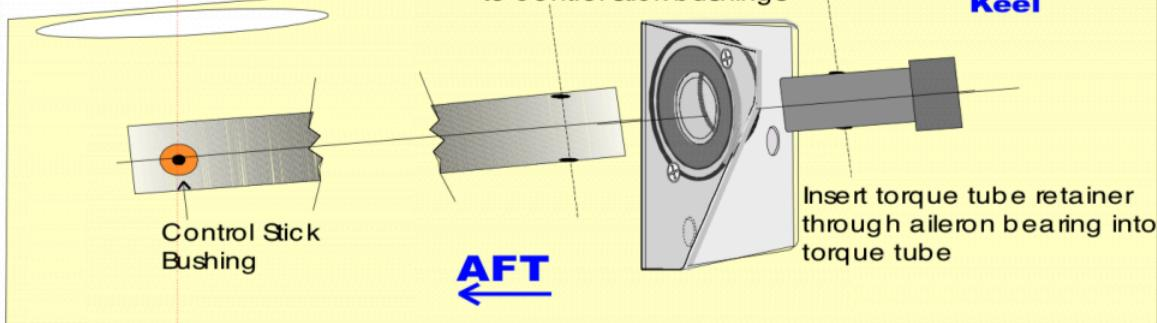

Figure 6-16 Torque Tube Retainer Installation
There is a location marked on the top centerline of the keel, approximately 11" aft of the instrument panel. Drill a 3-1/8" hole. This is where the control stick exits. Dimensions on Figure 6-16 are approximate and are for reference only.
The front aileron torque bearing bracket is mounted flange forward on the pilot side of the keel. The extreme front end of the bearing itself is 18-1/4" aft of the front flange of the keel. The center of the bearing is 12-1/2" above the bottom keel flange. The control stick bushings will be in the center of the hole you cut for the control stick when the front bearing is in the correct position. See Figure 6-16. Use (3) AN3-7A bolts, AN960-10 washers, and MS21083N3 nuts. For now, install it with just one bolt so that you can adjust the angle as you install the rear aileron control bracket. Counter bore the foam in the keel to allow the head of the bolt to be flush with the keel inner skin.